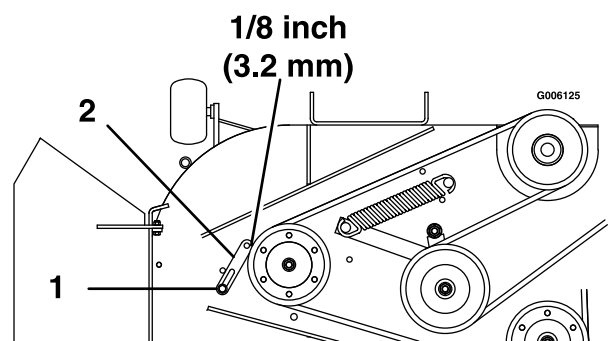

Figure 20
3. Note belt guide bolted to deck near the shield support stud and right-hand pulley. Guide should be 1/8 inch (3.2 mm) away from the belt, with bolt-end of guide near end of slot (Figure 20).